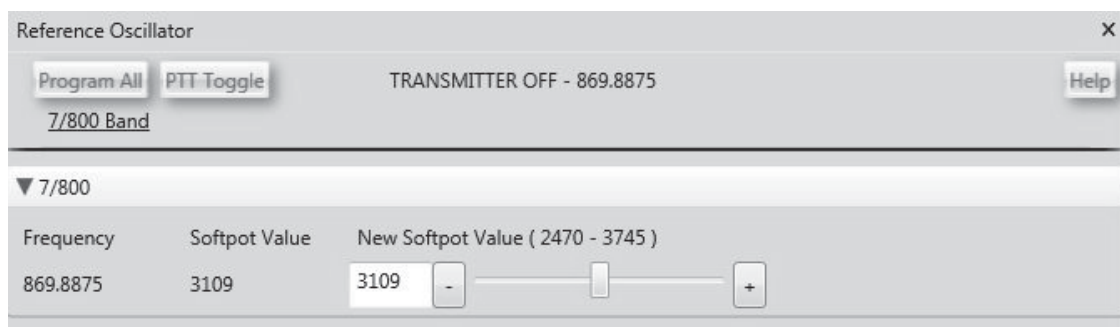

Figure 6-6. Reference Oscillator Window
- 1. Select **Reference Oscillator** from the Tuner Main Menu (Figure 6-6).